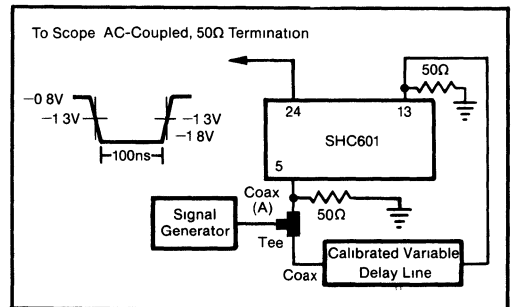

Figure 3. Aperture Jitter Test Circuit.
applied to both the S/H input and the analog input (see Figure 3). A delay line is used to compensate for the aperture delay time and can be made up of various coax lengths or by using a calibrated line such as an Allen Avionics Model VRM011. Because of the variation in the other cable lengths, coax (A) length may have to be adjusted to locate the sample and hold point at the midpoint of the signal transition.